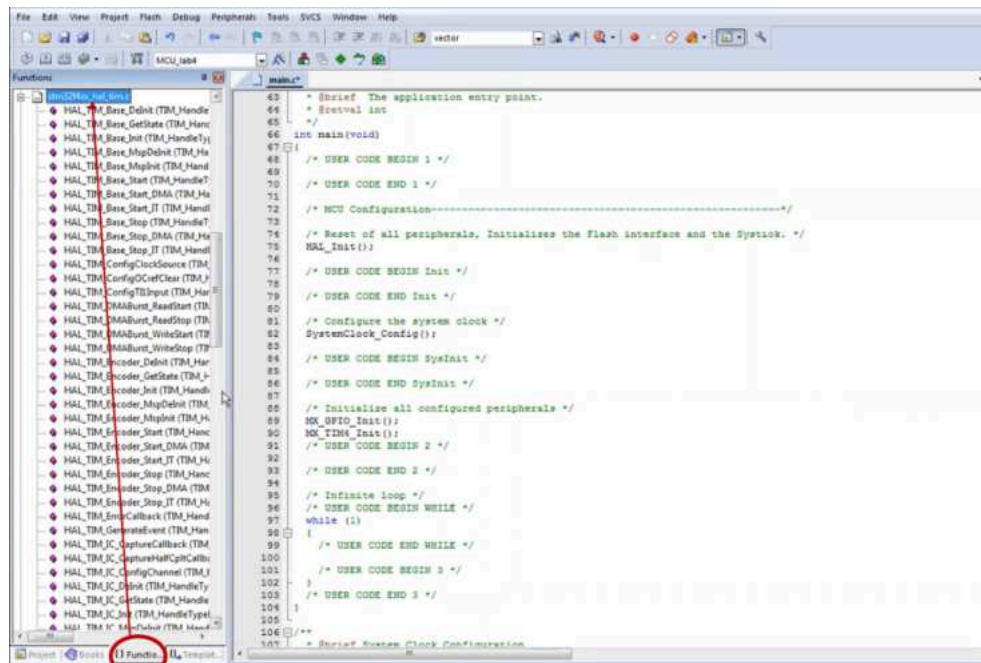

Figure 16
- You can see the functions for PWM in the HAL Library as shown in Figure 16. We use the `HAL_TIM_PWM_Start` function. This PWM signal is on in 500 of the Counter Period and off in the remaining 1500. Use `__HAL_TIM_SetCompare` macron (Figure 17). Observe the condition of the LED connected to the PD15 pin.